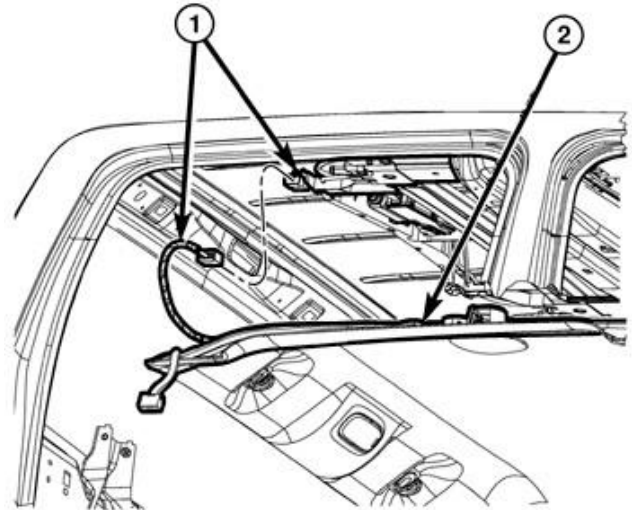

Figure 16 – Headliner Harness
24. Carefully tilt the front of the headliner (2) down to clear the rear view mirror then slide the headliner forward to clear the C pillar trim while disconnecting any wiring harness electrical connectors (1) as necessary to allow enough wiring harness slack to lower the headliner (Figure 16).
25. lower the headliner (2) allowing it to rest on the seat backs and instrument panel (Figure 16).
38. Raise the headliner into proper vehicle position and connect any electrical connectors previously disconnected from the headliner (Figure 16).